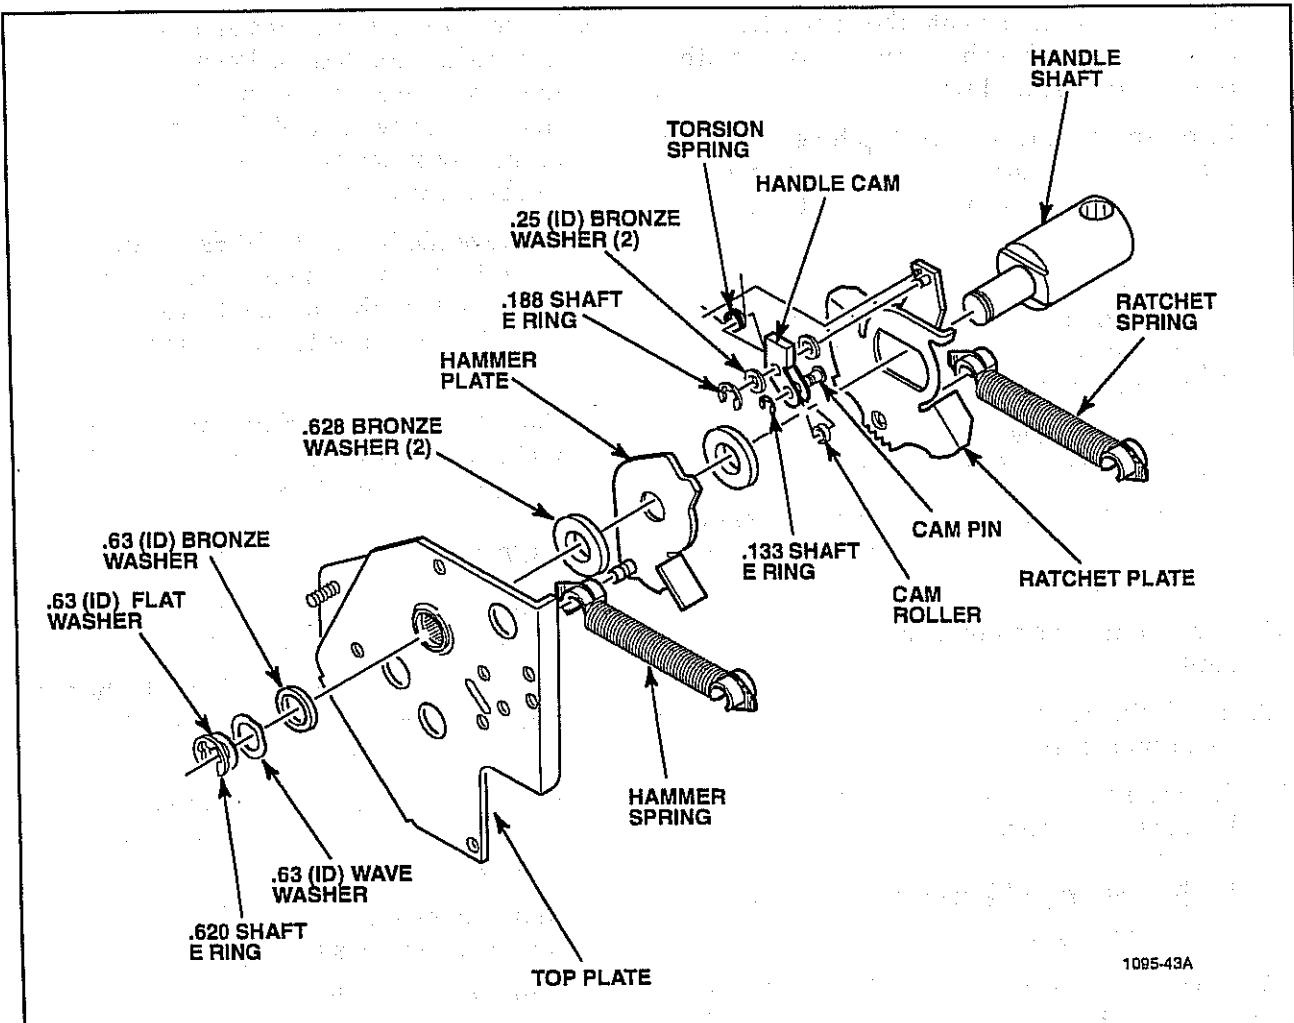

Figure 5-39. Top Handle Plate.
Refer to Figures 5-39, 5-40, and 5-41 for top and bottom chassis plate illustrations. Disassemble the top and bottom chassis according to the order of the following sections.
11. Attach the shorter (heavy-gauge wire) extension spring to the spring mounting post located on the ratchet plate. Newer models paint the ends of this spring white for identification purposes. Spring hooks must be oriented as shown in Figure 5-39.